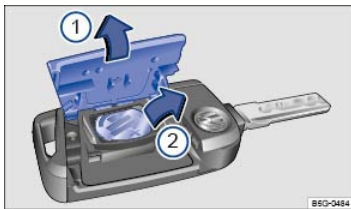

Fig. 49 Remote control vehicle key: Opening the battery compartment cover and removing the old battery.
Key to ⇒ Fig. 49 :
- Remove the cover on the back of the remote control vehicle key ⇒ Fig. 49① in the direction of the arrow using a suitable object such as a coin ⇒ ①. This action may require some force.
- Use a thin object to pry the battery out of the battery compartment ⇒ Fig. 49②.
- Position the new battery with the + side facing up and press the battery carefully into the battery compartment (opposite direction of the arrow) ⇒ ①.